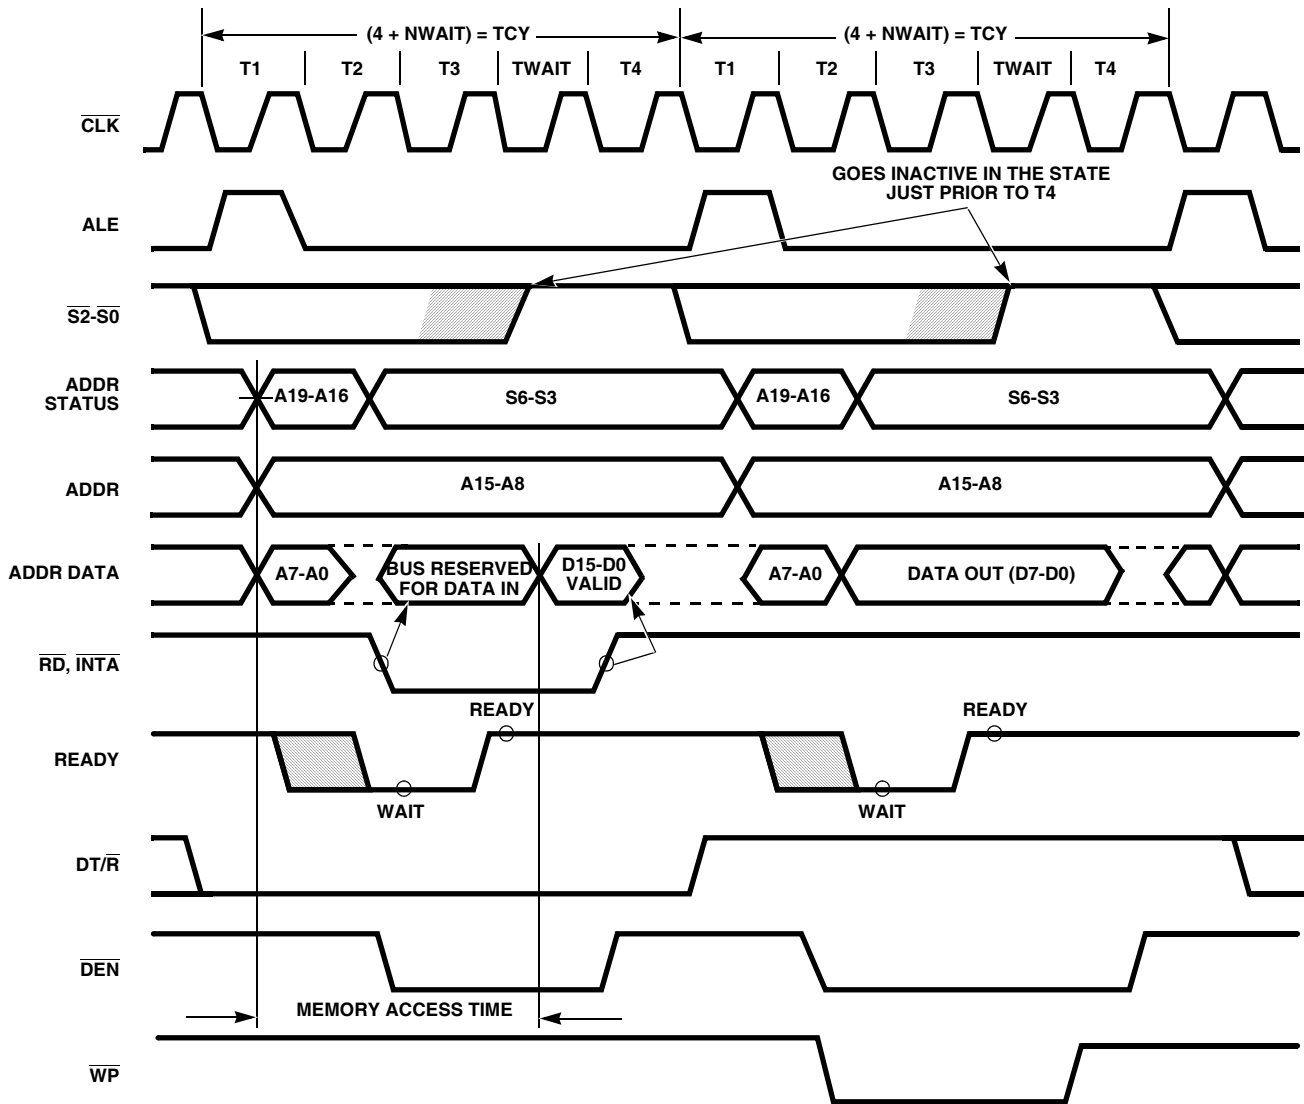

FIGURE 5. BASIC SYSTEM TIMING
Each processor bus cycle consists of at least four CLK cycles. These are referred to as T1, T2, T3 and T4. (See Figure 5). The address is emitted from the processor during T1 and data transfer occurs on the bus during T3 and T4. T2 is used primarily for changing the direction of the bus during read operations. In the event that a "Not Ready" indication is given by the addressed device, "wait" states (TW) are inserted between T3 and T4. Each inserted "wait" state is of the same duration as a CLK cycle. Periods can occur between 80C88 driven bus cycles. These are referred to as "idle" states (TI), or inactive CLK cycles. The processor uses these cycles for internal housekeeping.
The read cycle begins in T1 with the assertion of the address latch enable (ALE) signal (see Figure 5). The trailing (low going) edge of this signal is used to latch the address information, which is valid on the address data bus (ADO-AD7) at this time, into the 82C82/82C83 latch. Address lines A8 through A15 do not need to be latched because they remain valid throughout the bus cycle. From T1 to T4 the $\text{IO}/\overline{\text{M}}$ signal indicates a memory or I/O operation. At T2 the address is removed from the address data bus and the bus is held at the last valid logic state by internal bus-hold devices. The read control signal is also asserted at T2. The read ($\overline{\text{RD}}$) signal causes the addressed device to enable its data bus drivers to the local bus. Some time later, valid data